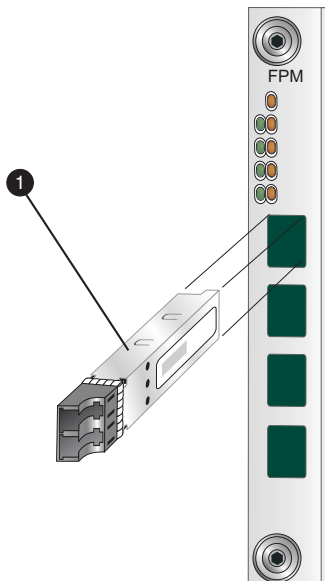

Figure 4-6: SFF Optical Transceiver Removal and Replacement
- b. Grasp the pull tab or the optical transceiver frame and pull the transceiver (❶) from the port receptacle (Figure 4-6).
2. As shown in Figure 4-6, insert the transceiver into the port receptacle.